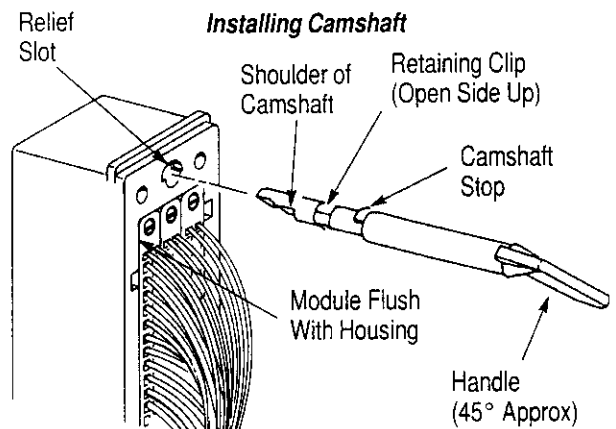

Figure 3
1. Insert three loaded plug modules into BACK of plug housing, making sure that module flanges are fully seated and that BACK of each plug module is parallel and flush with BACK of plug housing. See Figure 3.
3. Turn the retaining clip on the camshaft so that the open side of the clip is aligned with the camshaft stop. Align the camshaft with the back of the camshaft hole at the top of the plug housing. Notice that the camshaft handle is angled approximately 45° to ensure alignment of the camshaft stop with the relief slot in the housing. See Figure 3.
- Included new plug design using new camshaft shown in Figure 3